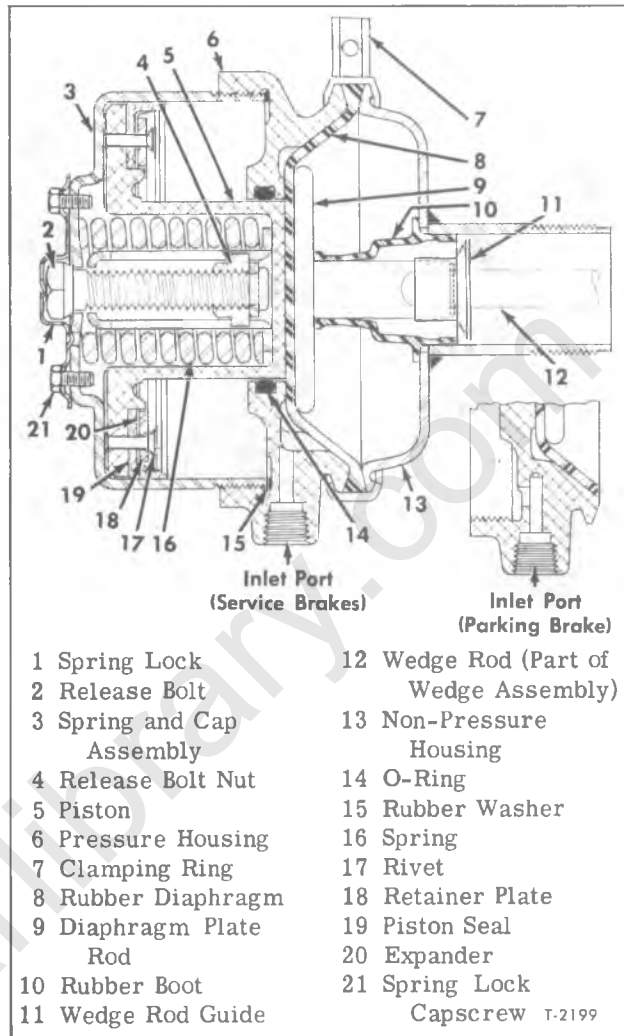
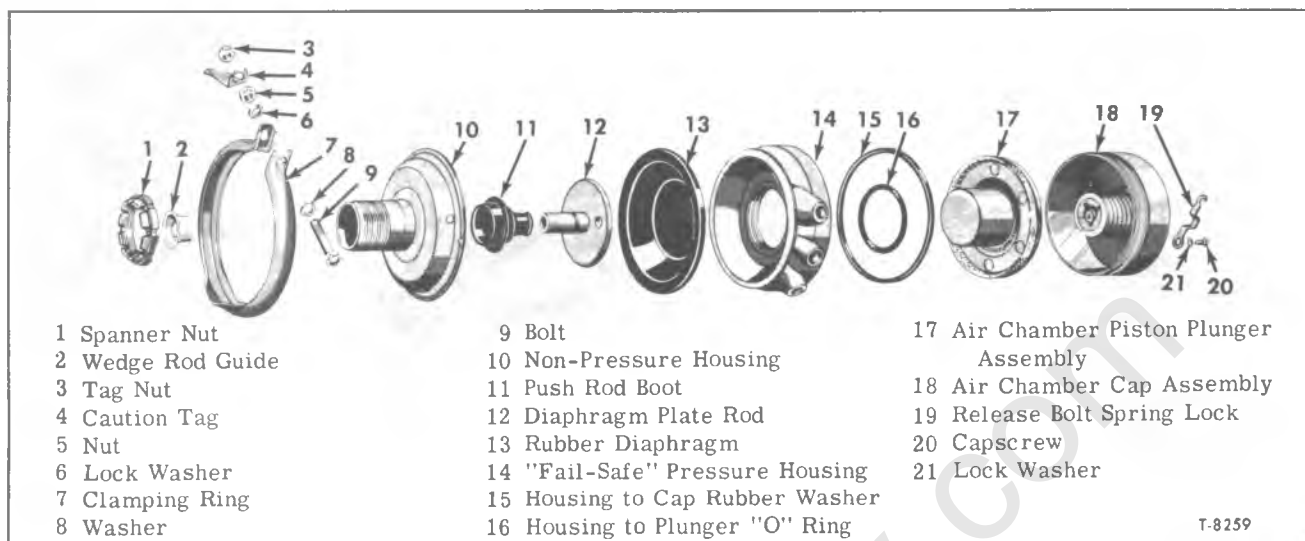

Figure 37—"Fail-Safe" Brake Chamber Assembly
Figure 38—"Fail-Safe" Air Chamber Components
BRAKE CHAMBERS (Fig. 37)
With brakes applied, check air chambers for leakage at clamping ring by covering ring with soap suds. Also apply suds to drain holes on bottom of chamber. Any small air leaks should be evident. No leakage is permissible at either location. If leakage occurs at clamping ring, tighten clamping ring. If leakage still persists, diaphragm may be deteriorated or not fitting properly between pressure and non-pressure housings (see figs. 37 and 38).
2. Parking Brakes (Fig. 37)
Refer to figure 37 (also refer to figure 38 for components).
(Refer to Figs. 37 and 38)